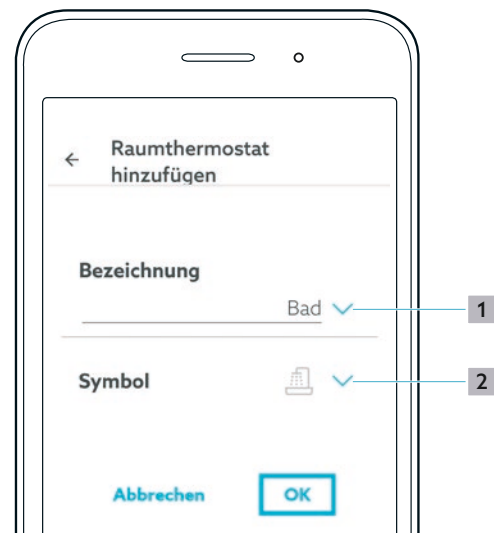

Fig. 13: ClimaCon F app - Start screen
By tapping the arrow (position **1** in Fig. 13 on page 16), you have the possibility to make the appropriate selection from a given list.
- 6 Select a suitable symbol from the list (position 2 in Fig. 13 on page 16).